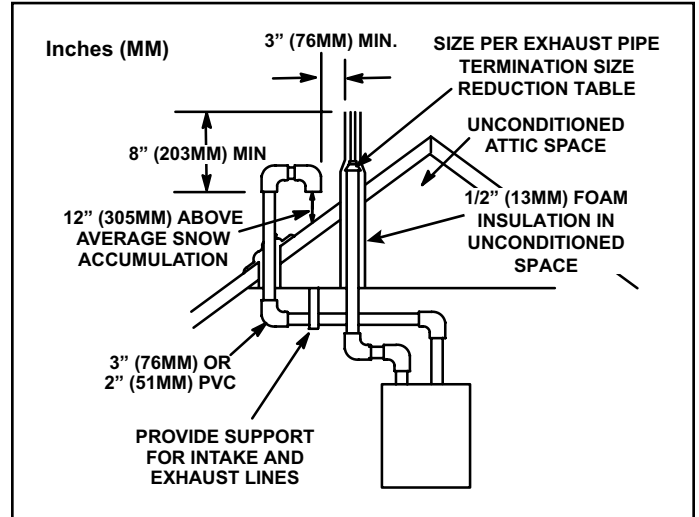

Figure 29. Direct Vent Roof Termination Kit (15F75 or 44J41)
3. On roof terminations, the intake piping should terminate straight down using two 90° elbows (Figure 29).